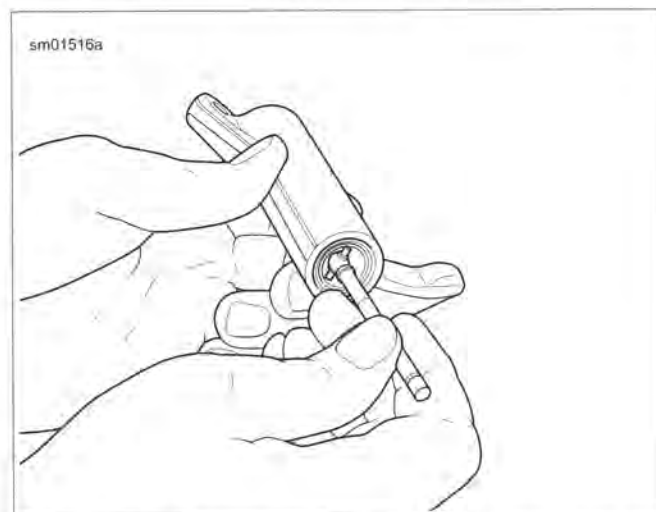

Figure 3-29. Measuring Rocker Arm Bushing Inner Diameter
- a. See Figure 3-29. Measure the inside diameter of the rocker arm bushing.